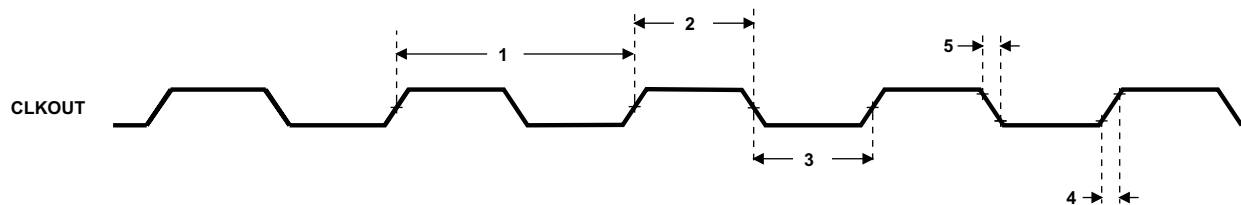

Figure 5-10. CLKOUT Timing
Table 5-5. Switching Characteristics Over Recommended Operating Conditions for CLKOUT^{(1) (2)} (see Figure 5-10)